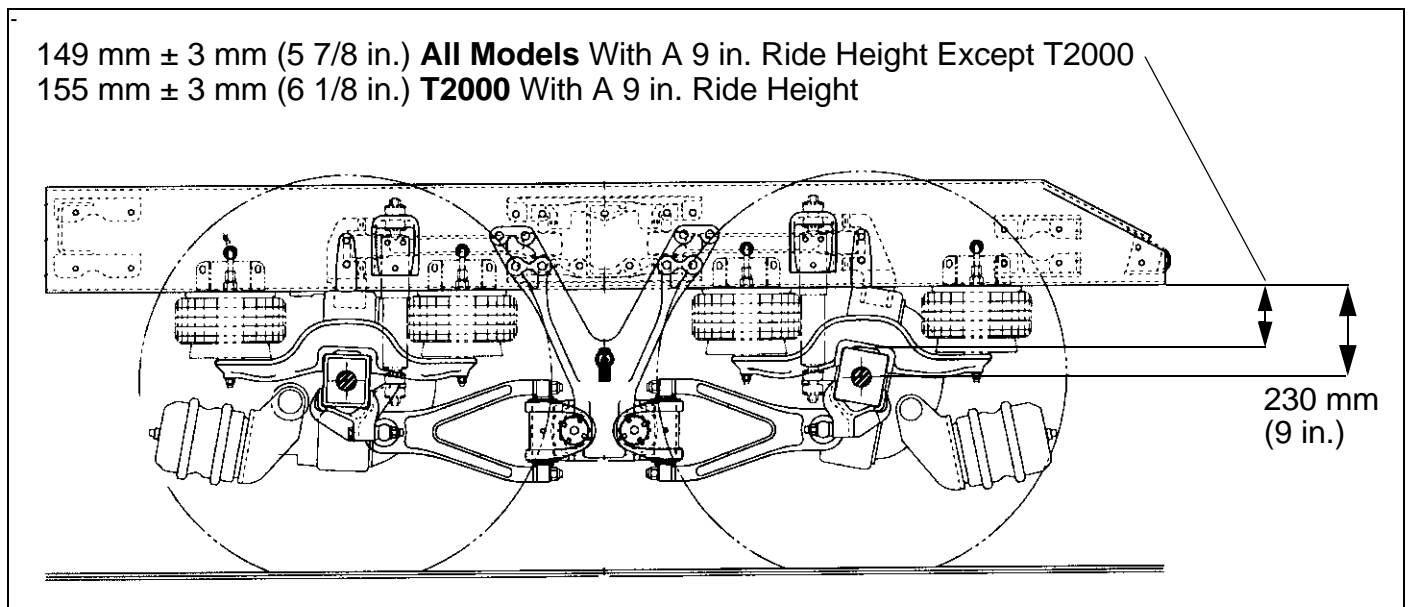

Figure 17-7 For 9 in. Ride Height
- All Models With a 9 in. Ride Height Except T2000: 149 mm \pm 3 mm (5 7/8 in. \pm 1/8 in.) See Figure 17-7
- T2000 With a 9 in. Ride Height: 155 mm \pm 3 mm (6 1/8 in. \pm 1/8 in.). See Figure 17-7